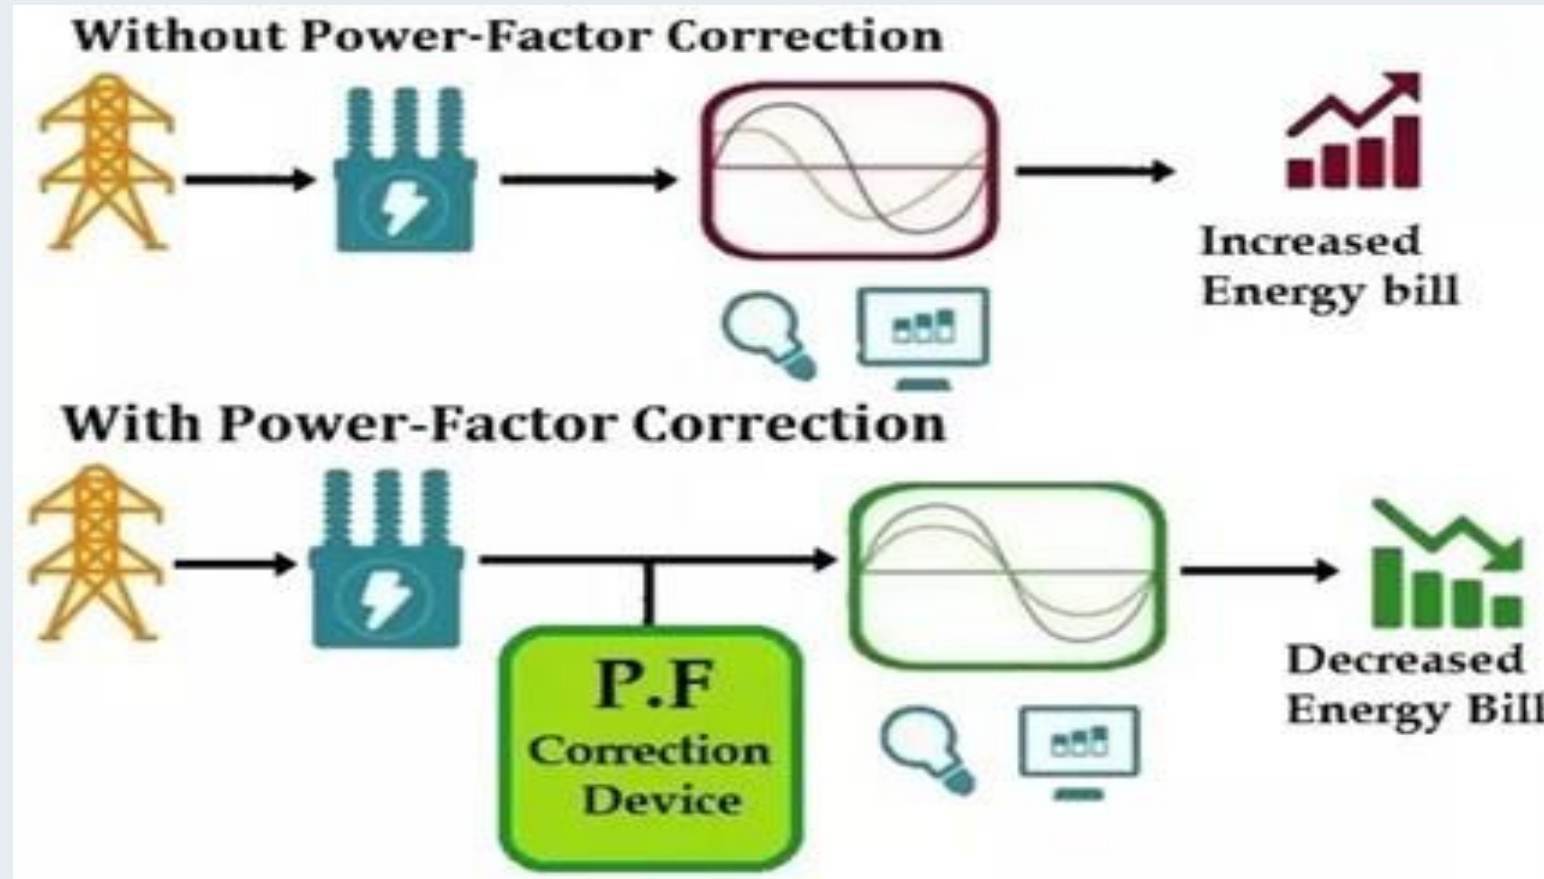

Figure 2. The power factor correction vs Energy bill.
- Increases system efficiency and reduces operational costs associated with energy losses in transmission and distribution lines as presented in Fig.2.
Url: <https://www.researchgate.net/publication/337238441/figure/fig2/AS:878425241841665@1586444306214/Series-compensation-on-a-transmission-line.ppm>